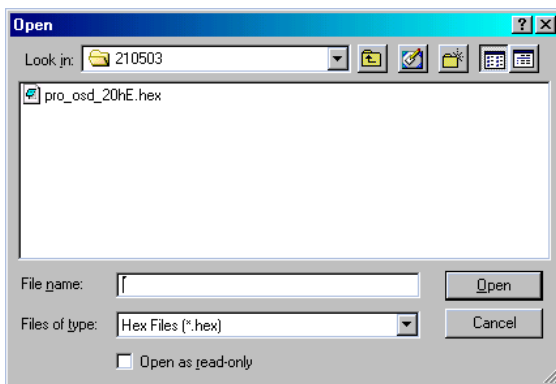

Figure 48 The Open box
3. From the **File** menu, choose **Open**. The **Open** box appears. See Figure 48.